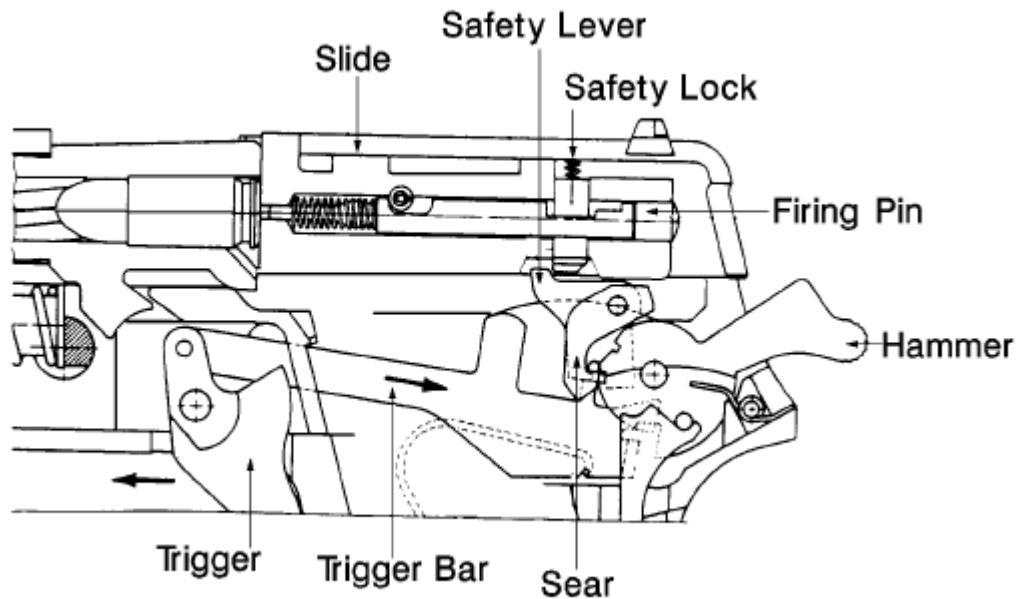

Figure 7 - Disconnector Operation
b. Disconnector Operation. (See Figure 7) Upon firing, the blowback action forces the slide and barrel assembly rearward. The slide disconnects the trigger bar from the safety lever, allowing the firing pin and firing pin safety lock to reset to the locked position, as well as releasing the sear. The sear returns to its initial position and holds the hammer as the slide goes forward.